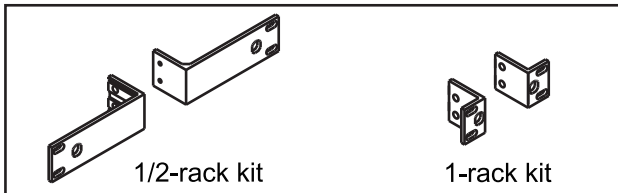

Fig. 6
2. Receiver Rack-Mount Kits (optional). Fig. 6